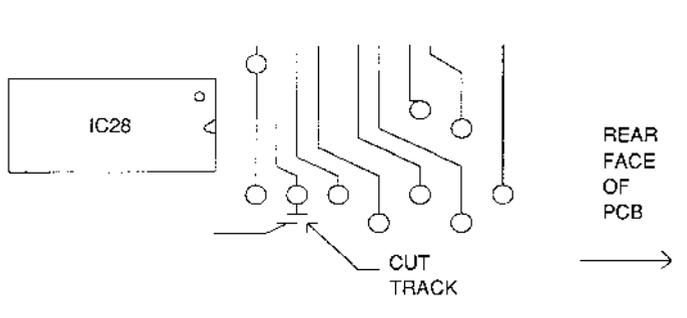

Figure 1 *Position of the track*
- 6 On Archimedes 305 and 310 machines with issue 1 PCBs, the LK12 position is not available and you need to cut a track (LA18). This track runs between 1C28 pin 18 and pin 24 of the ROM sockets. Figure 1 below shows the location of the track. You will need to re-make this track if you ever want to revert to RISC OS 2.